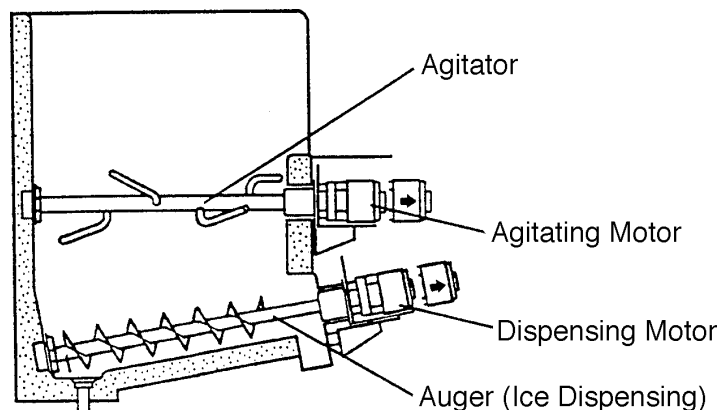

Fig. 9
- 2) Remove the thumbscrews, and move the Agitating Motor and the Dispensing Motor toward you. Then remove the Agitator and the Dispensing Auger. See Fig. 9.